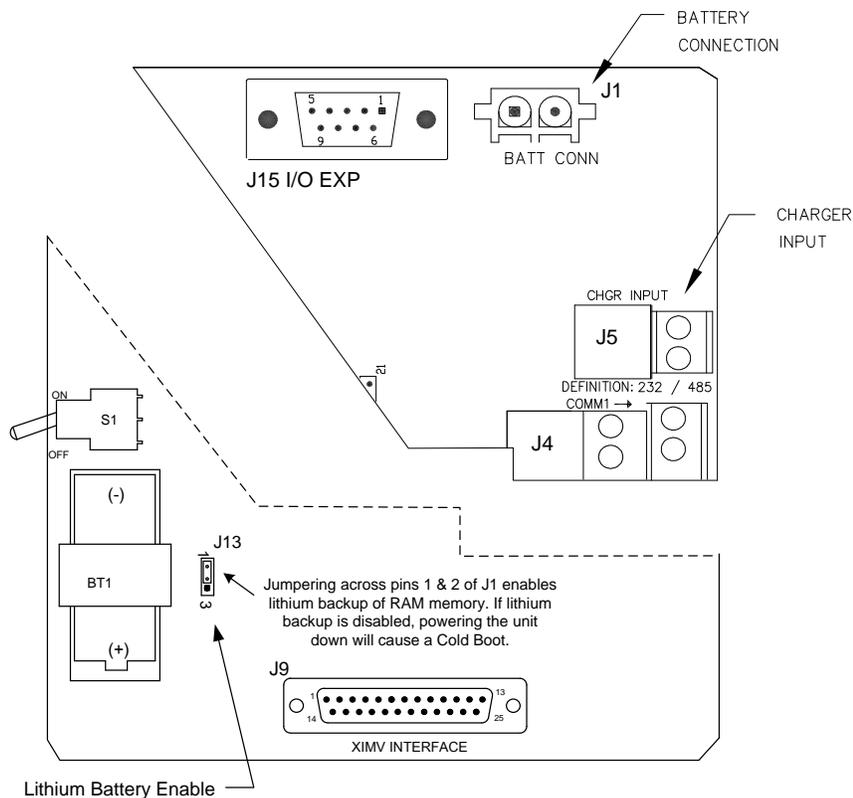

Figure 86: XFC^{G4} Electronic Board Maintenance Connections
5. Ensure the J13 memory backup jumper covers the top two pins (Figure 86). This enables the memory backup.
15. Reconnect the battery pack cable to the flow computer panel connector J1 (Figure 86, *XFCG4 Electronic Board Maintenance Connections*, page 114).
16. Reconnect the battery charger to the flow computer panel terminals EXT CHGR +/- terminals J5 (Figure 86, *XFCG4 Electronic Board Maintenance Connections*, page 114).
5. Ensure the J13 (Figure 86) memory backup jumper covers the top two pins.
8. Disconnect the battery charger from the panel terminals EXT CHGR +/- J5 (Figure 86, *XFCG4 Electronic Board Maintenance Connections*, page 114).
9. Disconnect the Battery Cable from the panel connector J1 (Figure 86).